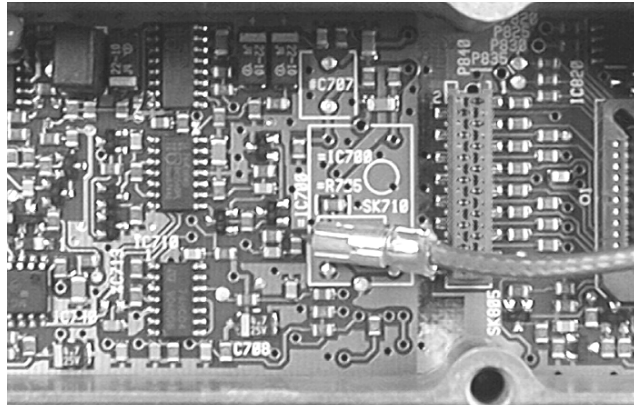

Figure 1 Location Of Socket And SMD Resistor
2. Fit the miniature coaxial socket (=SK710) and 47 Ohm SMD resistor (=R705) to the PCB pads provided beneath the TCXO, as shown in Figure 1.